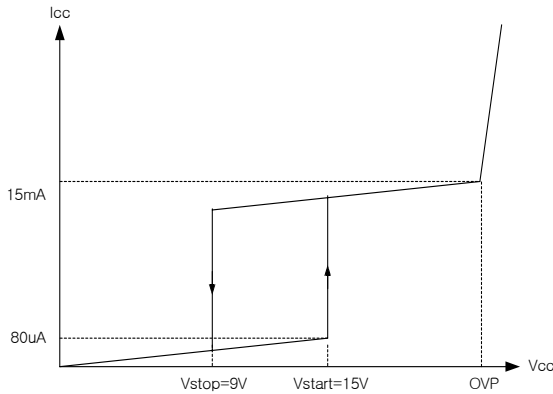

Figure 1. Start up with hysteresis
1. Start up : To guarantee stable operation of the control IC, FS8S0965RCB has UVLO circuit with 6V hysteresis band. Figure 1 shows the relation between the supply current (I_{cc}) and the supply voltage (V_{cc}). Before V_{cc} reaches 15V, the FPS consumes only startup current of $80\mu A$, which is usually provided by the DC link through start-up resistor. When V_{cc} reaches 15V, the FPS begins operation and the operating current increases to 15mA as shown. Once the control IC starts operation, it continues its normal operation until V_{cc} goes below the stop voltage of 9V